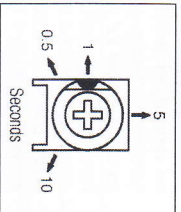

FIGURE 24 – DECEL TRIMPOT RANGE
B. Deceleration (DECEL) – Sets the amount of time for the motor to decelerate from maximum speed to minimum speed. The DECEL trimpot is factory set for one (1) second, as shown in Figure 24. For more rapid deceleration time, rotate the trimpot counterclockwise. For longer deceleration time, rotate the trimpot clockwise.